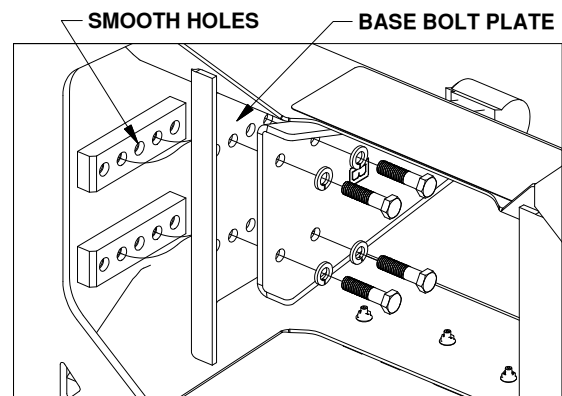

Figure A4: View under the base.
- 3. Secure arms.** Retrieve both pivot arms, the four threaded blocks, eight 1/2" cap screws, and eight 1/2" lock washers. Place the lock washers over the cap screws. Align the flat side of the pivot arm against the bolt plate and install four 1/2" cap screws through the holes on the arm, holding the arm in place, as shown in Figure A4. Locate the threaded blocks. Note that the sides of the block have threaded holes on one side and smooth bored holes on the other side. When installing the threaded blocks, it is critical that the side with the smooth holes is flat against the bolt plate. It is also crucial that each of the five holes in the threaded block matches up with the five vertical holes in the bolt plate. Pass the threaded block under the base's side and align the block with each set of screws, then start each screw. After all the screws are started through the arms, tighten and torque each bolt to 110 ft-lbs.